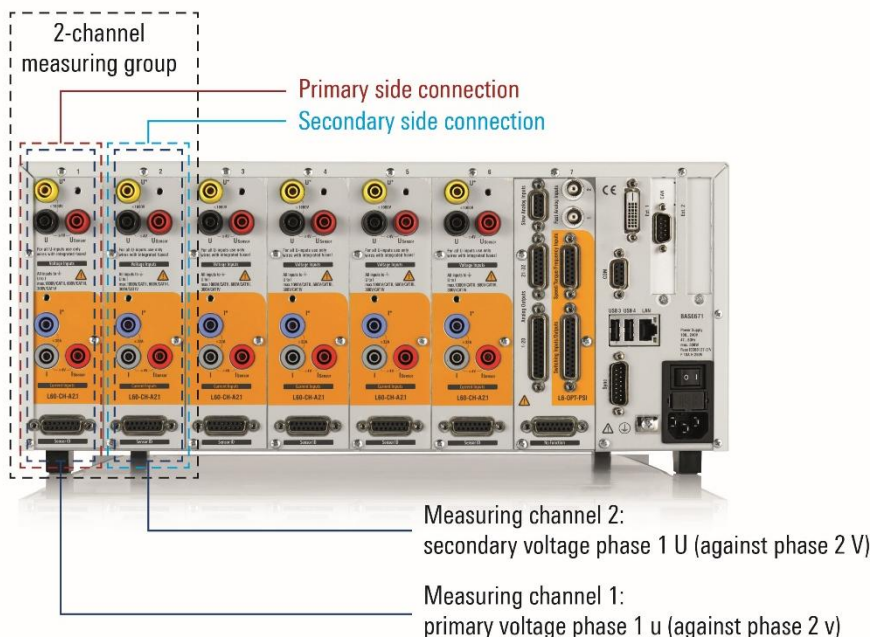

Figure 18: Connection and grouping of measuring solution 2 for testing the phase displacement
The primary voltage of phase 1 (u) and the secondary voltage of phase 1 (U) are connected to two consecutive channels on the LMG671 and defined as a 2-channel measuring group, Figure 18. Measuring channel 1 serves as the synchronization reference, and in the harmonics analysis, the LMG671 determines the phase shift of measuring channel 2 (secondary voltage phase 1 U) relative to channel 1 (primary voltage phase 1 u), displayed numerically and graphically. Using the integrated script editor, the phase difference is automatically calculated and made available to the user as a derived measurement value.